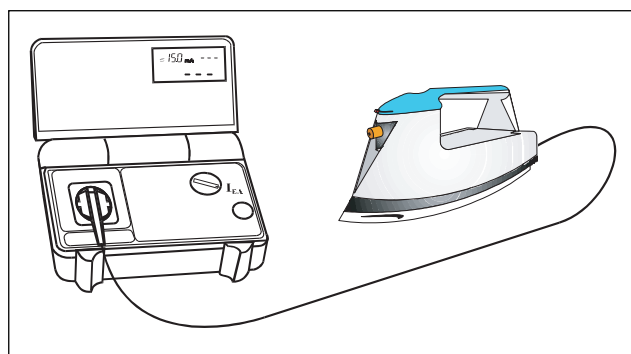

Fig.7.21
- Connect UUT to test / mains socket of UNITEST MACHINEmaster (see Fig. 7.21). Switch on UUT.